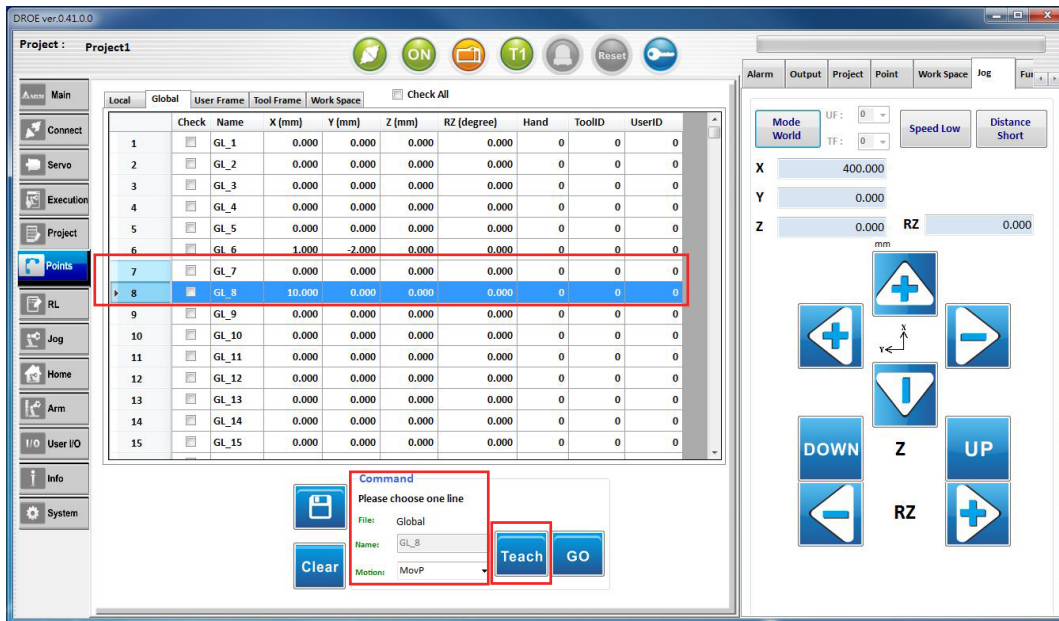

Fig.26 Teach (teach point)
3. Teach (teach point position), as shown in Fig.26: